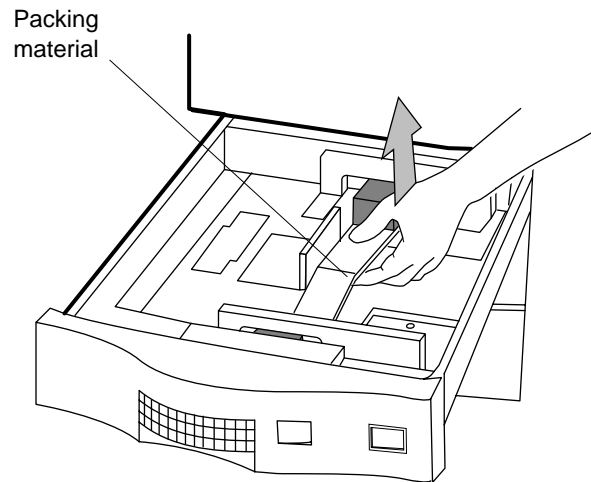

Figure 2-39 Removing Foam Packing Material
2. Remove the foam packing material from each tray. See Figure 2-39.